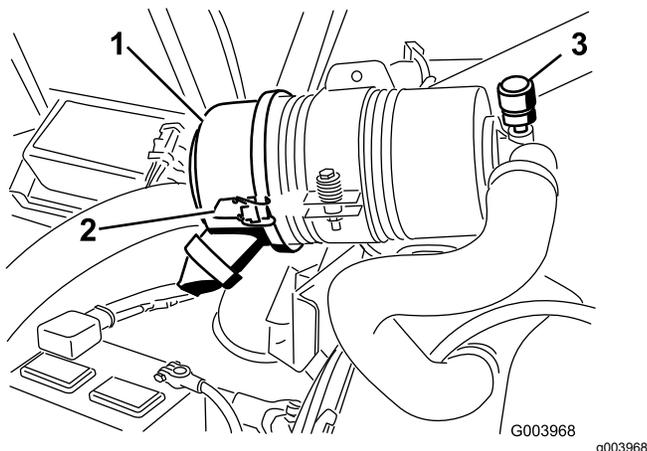

Figure 46
Service the air cleaner filter only when the service indicator (Figure 46) requires it. Changing the air filter before it is necessary only increases the chance of dirt entering the engine when the filter is removed.
1. Release the latches securing the air-cleaner cover to the air-cleaner body (Figure 46).